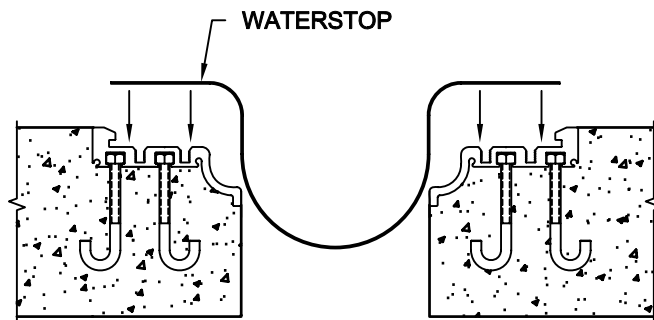

FIGURE 6.1
- 6.1) Once the Waterstop is in the joint, the Top Frame can be used as a template to puncture holes in the Waterstop at locations that require a $\frac{5}{16}$ " - 18 Flat Head Fastener. For KBCW models the Cover Plate can also be used as a template to puncture holes in the Waterstop against the wall. (See Figures 6.1 & 6.2)